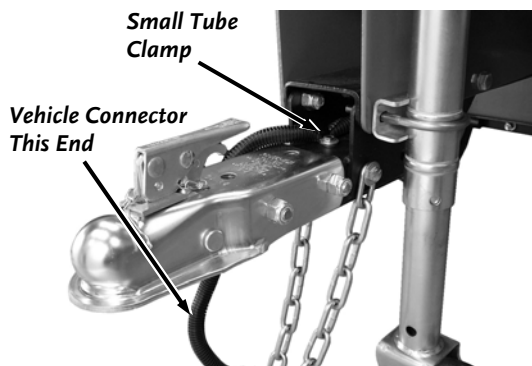

Figure 41
4. Place the Vehicle Connector end of the Wire Harness near the Tow Hitch and let it extend about two feet past the Hitch. Place the 7/16" Tube Clamp around the Harness and secure the Clamp to the Frame using two 7/16" Wrenches (**Figure 41**).